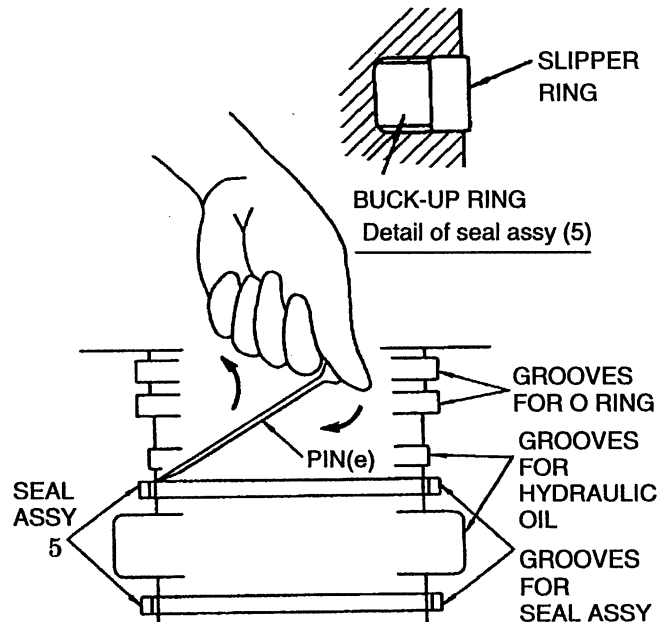

Fig. 6-7 Taking out seal assy (5)
- 2) Stick pin (e) to seal (5) and extract slipper ring (5). Fig.6-7 shows the use of one pin, but by using two pins, this can be extracted with more sureness.